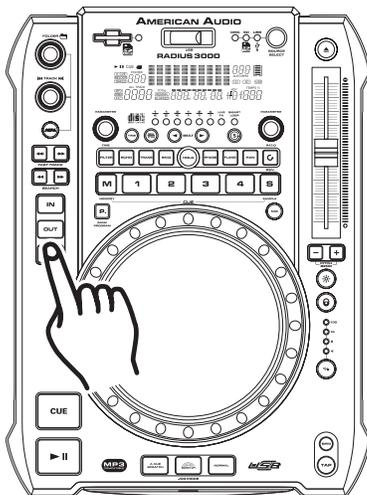

Figure 20
**Please note:** Only the ending point of the loop may be edited. You may make your loop shorter or longer. Before you can edit your seamless loop you obviously must first create a seamless loop to edit. If you haven't created a SEAMLESS LOOP, follow the instructions in step 10 to create a loop. If a SEAMLESS LOOP has already been created, press the *RELOOP BUTTON (15)* to activate your SEAMLESS LOOP (Figure 20) if it is not already activated. To edit your seamless loop's ending point: